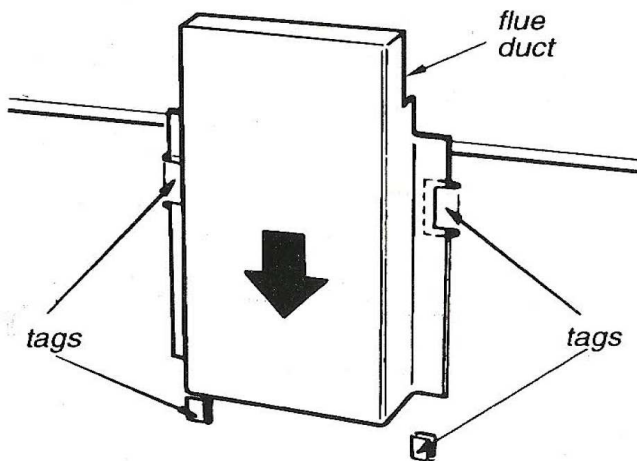

Fig. 11
3. Vanessa Cooker Only - Fit the oven flue duct as shown in Fig. 11. Slide the duct down the cooker back ensuring that it engages in all four tags.